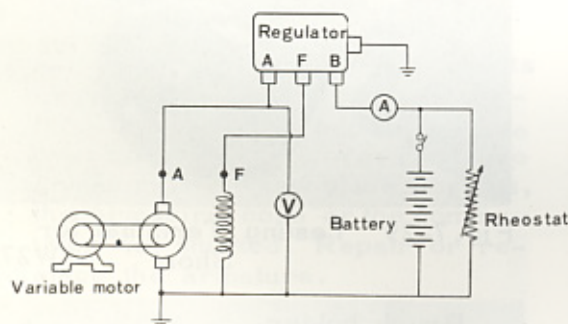

Fig.7-31 Wiring for Output Test Z0114
1. Perform the output test making a circuit as shown in figure 7-31.